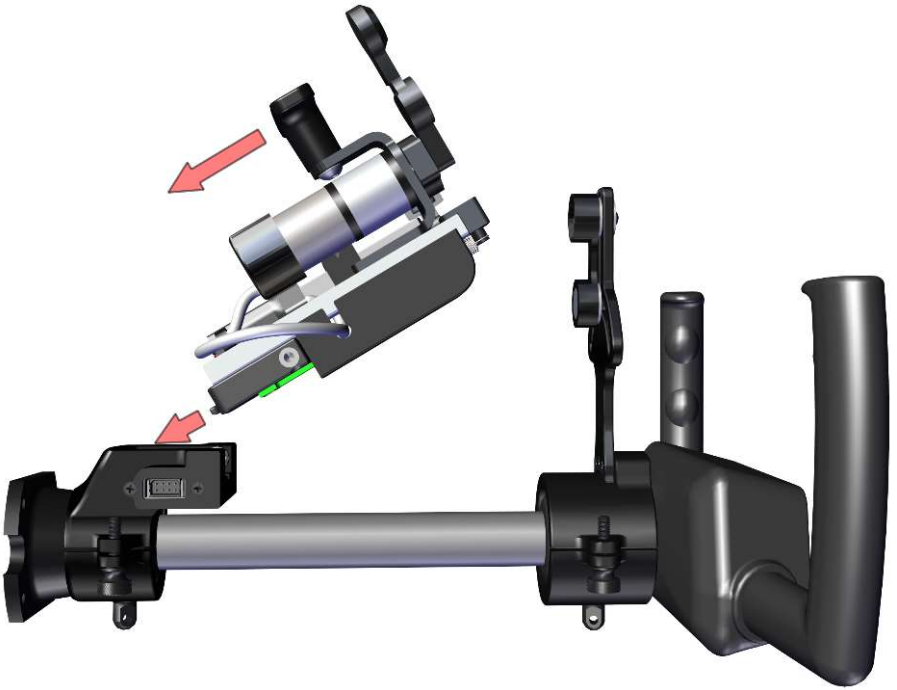
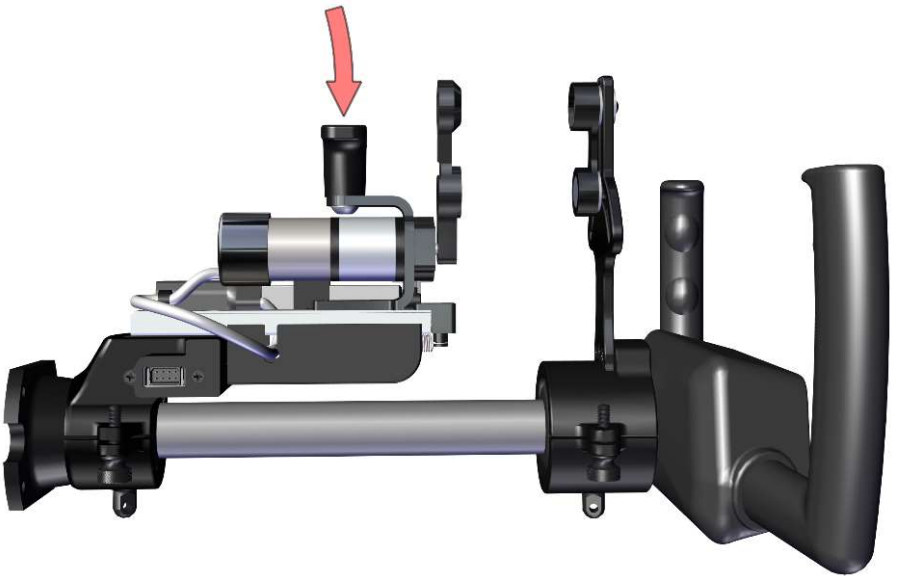

Figure 6. Insert Actuator Assembly at a 30° angle towards rear of YCC. To prevent damage, avoid gold pins inside the YCC.
Figure 7. Pivot the Actuator Assembly down and snap into place. Beware the YC Assembly will want to snap together to the Actuator Assembly at this point.
1. Line up the Actuator Assembly with the rear of the **YCC** opening, insert at a (approximately) 30° angle. Once fully inserted, rotate down to snap into position (Figure 6, Figure 7)